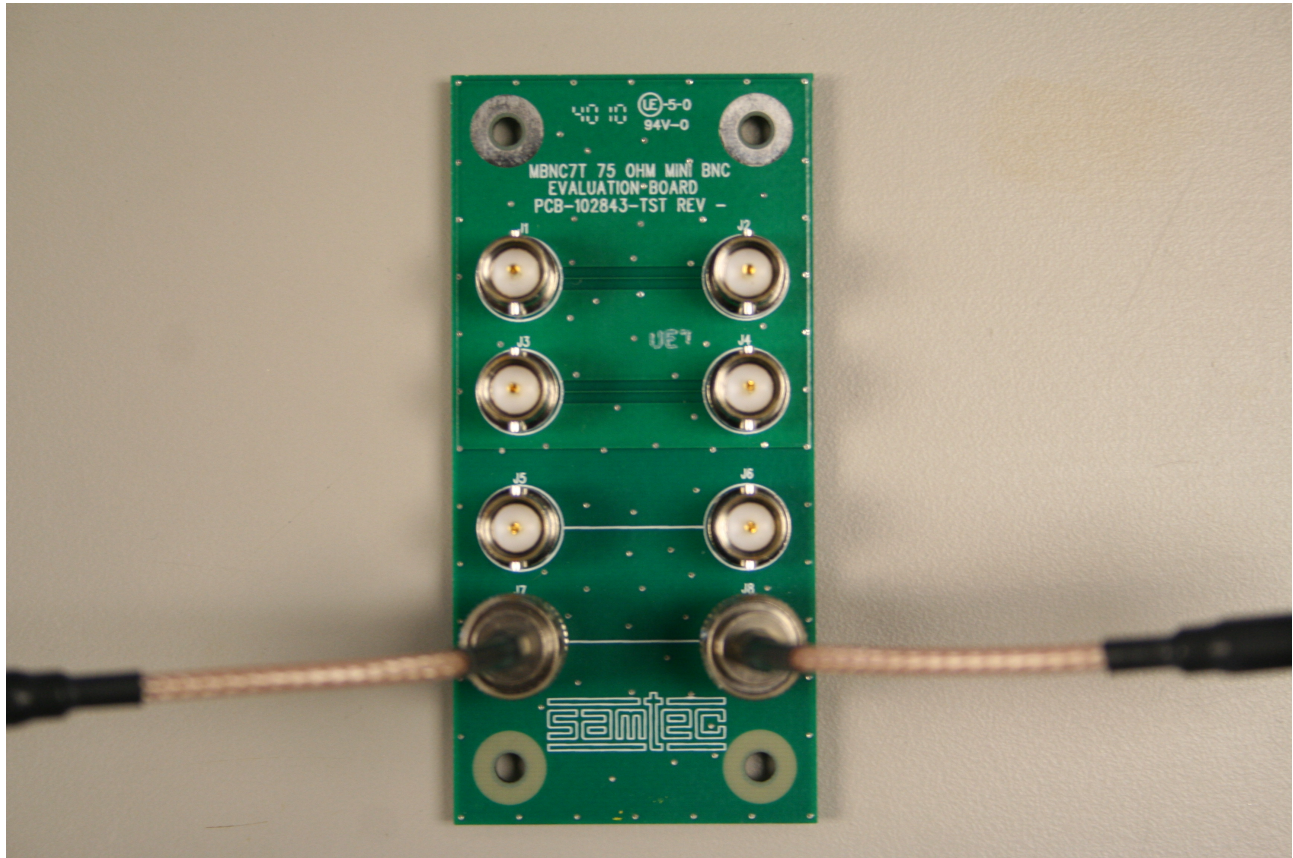

Figure 1: Test Sample Configuration
The MBNC7 jacks were tested by mating to a MBNC7 plug, which was part of a RF179-74BJ3-79SP3-0100 cable assembly having a 75- Ω BNC (f) connector at its second end. Two (2) MBNC7 jacks (a Layer 1 launch and a Layer 4 launch) were tested for Return Loss and VSWR. Isolation between a pair of Layer 1 launch jacks and between a pair of Layer 4 launch jacks was also measured. The actual part numbers that were tested are shown in Table 1. A representative sample picture is shown in Figure 1.